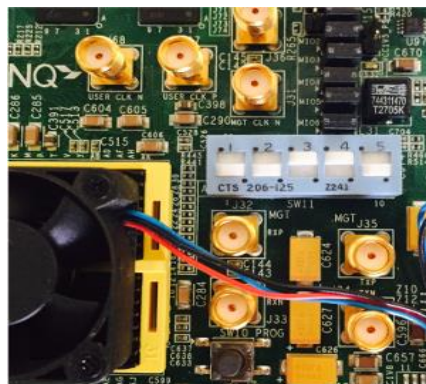

Figure 2: Zynq DIP switch setup
2. Ensure that the DIP switches on the ZC-706 board (SW11) are set as shown in Figure 2 (SW1: down, SW2: down, SW3: up, SW4: up, SW5: down).
8. Click on the AD9375 link on the left pane of the TES GUI and select the desired Tx profile. Tx profiles that begin with the “TxDPD” label have either one or two of the DPD half band (HB) filters enabled. Each HB filter interpolates the data by a factor of two downstream of the JESD interface. The DPD IQ rate is therefore 2x or 4x the IQ rate shown in the profile selection tab. This interpolation allows for the higher bandwidth required for DPD operation while keeping a lower data rate across the JESD link. All other Tx profiles have the DPD HBs disabled so DPD IQ rate matches the profile IQ rate.